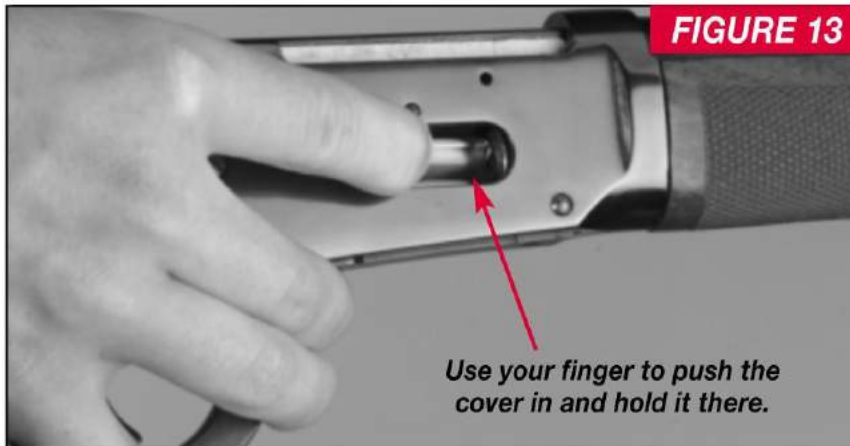

FIGURE 13
2. With the action closed use a finger of your free hand to push fully in on the spring cover of the loading port and hold it there (Figure 13).